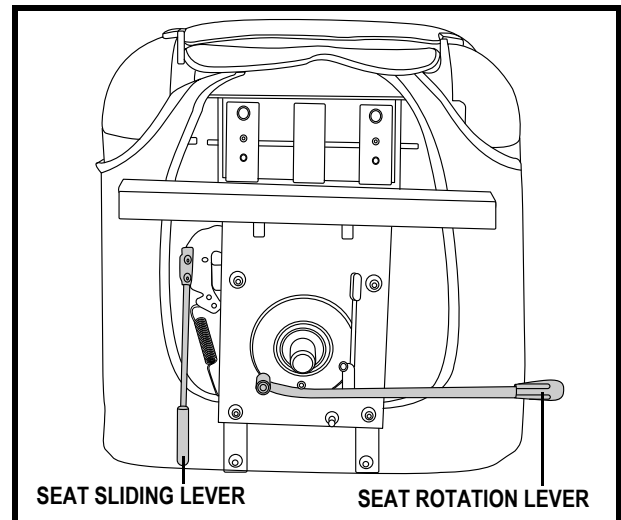

Figure 15. Seat Adjustment Levers
1. Push forward on the seat rotation lever to disengage the seat. See figure 15.
You can reposition the seat forward or rearward to adjust the distance between the seat and the tiller. See figure 15.